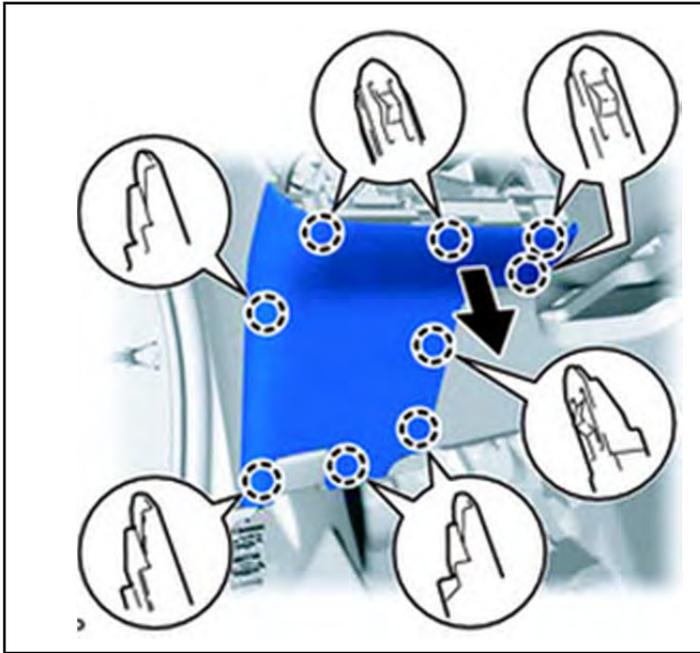

Figure 8
8. Disengage the 9 claws and remove the lower instrument panel finish panel LH as shown in the illustration. See figure 8.